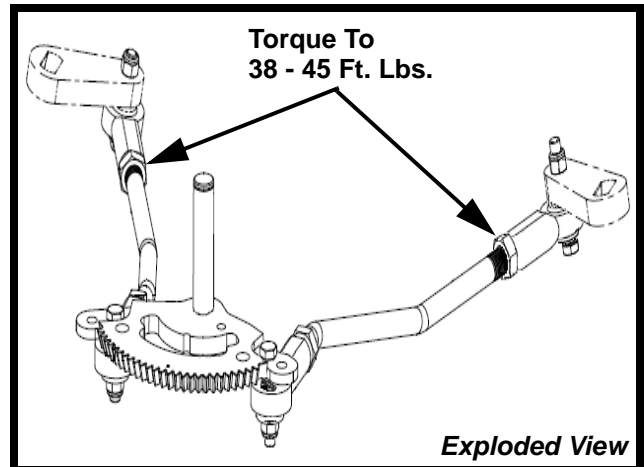

FIGURE 15
42. Torque the jam nuts at each 5/8-18 ball joint on the steering arm end of the drag link assembly to 38 to 45 ft. lbs. See Figure 15.